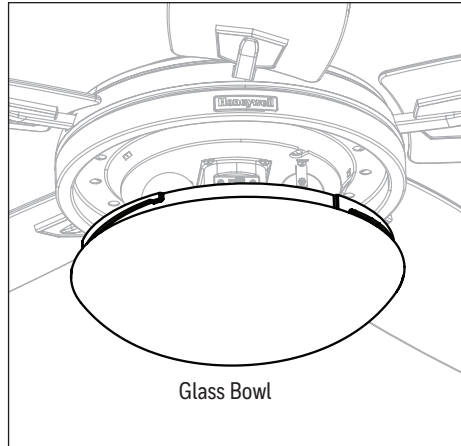

Figure 5.11
11. Lift the glass bowl into the light kit and twist in a clockwise direction to secure (Figure 5.11).